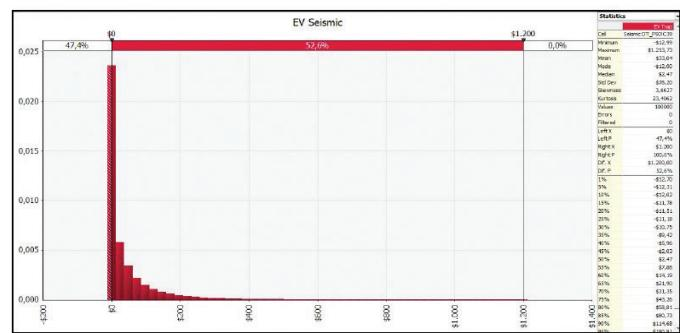

Fig.4 - Earned value (EV) distribution of seismic acquisition (Y)
Fig.4 shows that %47,4 of the occurrences take place within an earned value of acquiring seismic (Y) negative range of 14- to 0 MUS\$. It is concluded that VOI is equal to 0. For %52,6 of the iterations the positive earned value of acquiring seismic (Y) is in a range between 0 and 1200 MUS\$, therefore Y=VOI which means that the probability of having VOI>0 is %52,6. According to this, the probability of destroying value with the seismic acquisition and drilling of an exploratory well is %47,4.